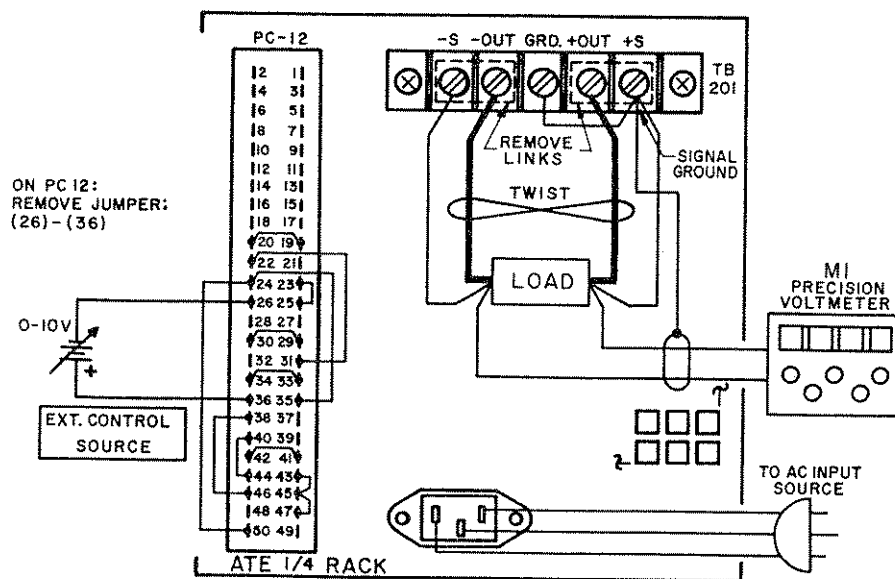

FIG. 3-14 REMOTE CROWBAR LEVEL CONTROL WITH AN EXTERNAL (0-10V D-C @ 1 mA) SIGNAL SOURCE.
- 2) Connect a substitute LOAD and the EXT. CONTROL SOURCE to the ATE as shown in FIG. 3-14. Set the EXT. CONTROL SOURCE to its maximum value.